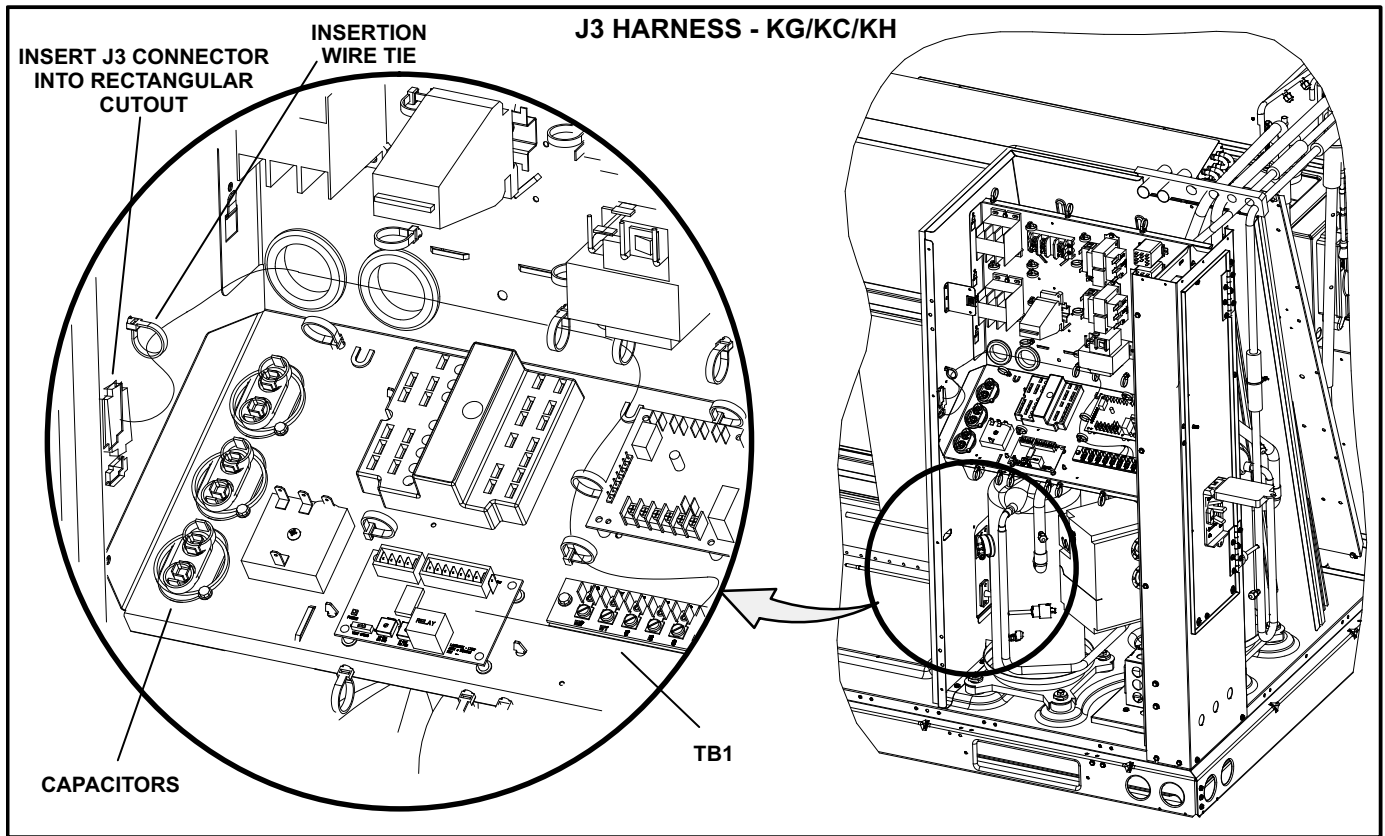

FIGURE 3
- 2- Remove and retain filter access panel on the back of the unit. See figure 3.